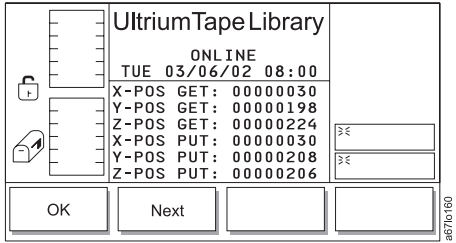

Figure 4-35. Position Dialog
6. To view the coordinates that the X-, Y-, and Z-axes use to move cartridges to and from the selected slot, press the button below the **Next** softkey. The Position Dialog displays (see Figure 4-35 on page 4-22).